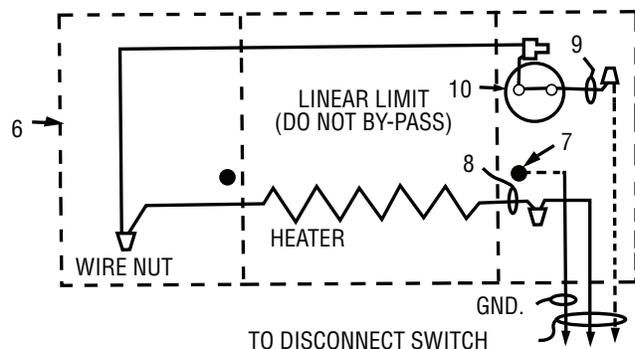

Figure 3. Single Unit Installation
3. All wiring procedures and connections shall be in accordance with the National Electrical Code (NEC) and applicable local codes. Refer to Wiring Diagrams, Figures 3 and 4. Make sure all electrical connections are tight to prevent possible overheating. Use Copper Supply Wire Only.
5. Following wiring diagram, Figure 3, make electrical connections in junction box by removing wire nut from heater wires (8 & 9) and making electrical connection to supply wires. Connect ground wire to green grounding screw (7) in junction box.
**IMPORTANT NOTE:** This heater is provided with an over-temperature limit control (Linear Limit) - see Figures 3 and 4. This safety control is provided to cycle the heater off to maintain safe temperatures in the event of a blockage or other abnormal condition. DO NOT remove or bypass this important safety control as it is provided to limit the temperatures and prevent a possible fire in the event the heater is subjected to an overheating condition. If it is determined that the heater is cycling off on the safety control during normal use, discontinue using the heater until it can be inspected and repaired by a qualified service personnel.